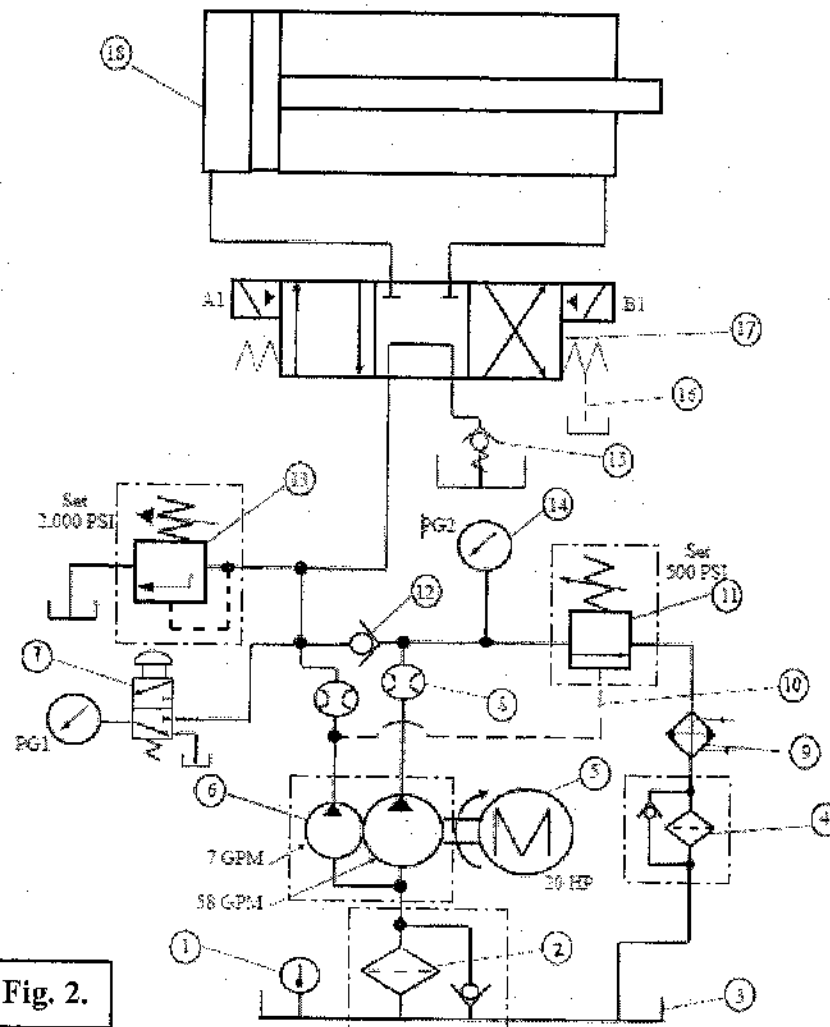

Fig. 2.
- D. For the circuit shown in Fig. 2.